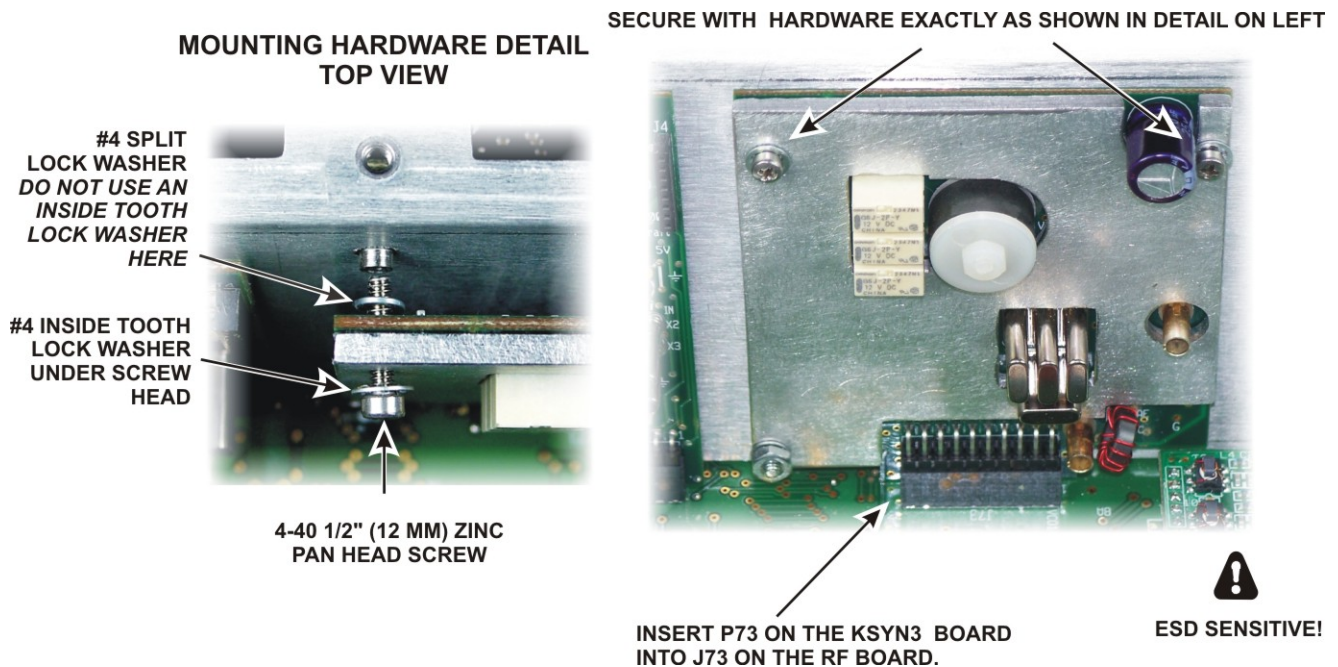

Figure 73. Installing the KSYN3 Board.
□ Install the KSYN3 board on the back side of the front panel shield using the hardware exactly as shown in Figure 73. This is most easily done as follows: